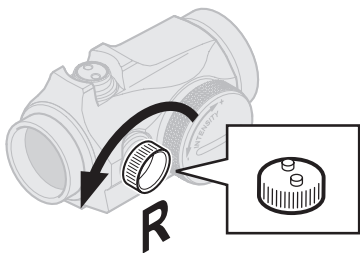

Fig. 4  2.3
- a Open lens covers (11) and (12).
- b Adjust the intensity (8) to a comfortable setting for the red dot to contrast against the target.
- c To access elevation adjustment screw (4) and windage adjustment screw (5), remove the adjustment cap (2) and the cap (3).
- d The adjustment cap (2) or the tool (13C) must be used to turn the adjustment screws. Place the knobs on the adjustment cap (2) into the recesses on the adjustment screws (4) and (5).
- e Windage adjustments (See Fig. 4)